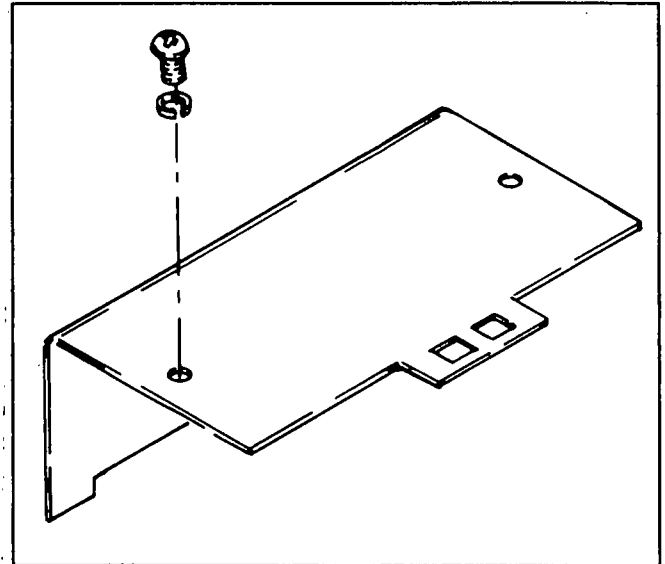

Figure 2. Outer Cover Removal
1. See Figure 2. Remove two (2) screws that retain the outer cover to the transfer mechanism.